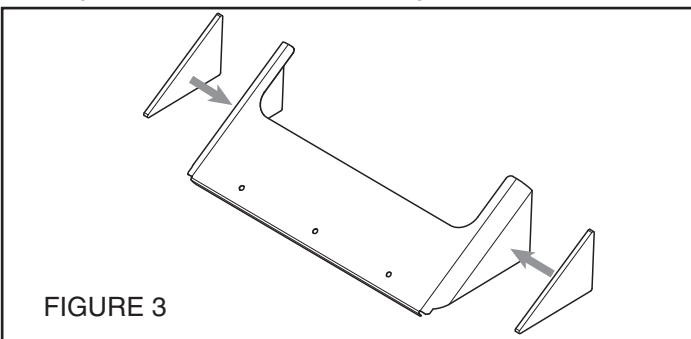

FIGURE 3
3. Attach two triangular pieces of foam to the outside of each of the two drain pan extensions aligning them with the vertical edge of the pan extension. See Figure 3.